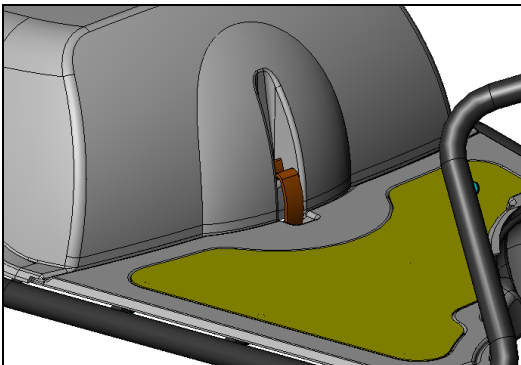

Figure 10
Serial Number Label is affixed to the Tiller: See Fig 10.
- c. Push the **Plastic Clip** to secure the **Batteries Cover** in its location (See **Figure 10**).